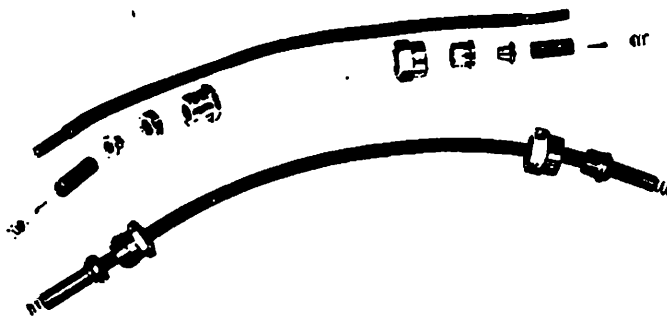

Figure 6-5. Magneto Lead Exploded View
- a. Refer to Figure 6-5 Magneto lead, exploded view, for part location.